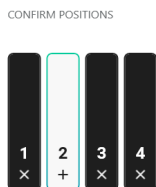

Figure 33 Confirming maintenance wash positions with positions 1, 3, and 4 selected, and position 2 unselected.
- Unselect the positions you do not want to wash (see Figure 33). By default all positions are selected.